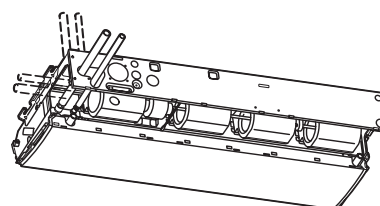

Fig. 2-82
- The positions of the refrigerant tubing connections are shown in the figure below. (The tubing can be routed in 3 directions.) (Fig. 2-82)
- * If the drain hose is routed through the left side, refer to Fig. 2-82, and follow the procedure above to install the hose. Reattach the rubber stopper removed earlier onto the right side.